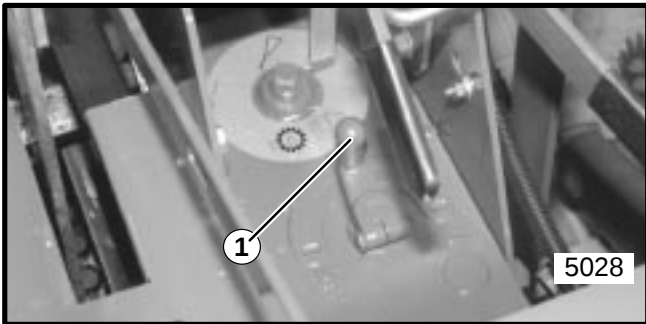

FIGURE 9
3. Place drive shifter handle in either "H" (high) or "L" (low) speed range position and adjust throttle accordingly. See Figure 9. Position unit at the beginning of area to be cut.